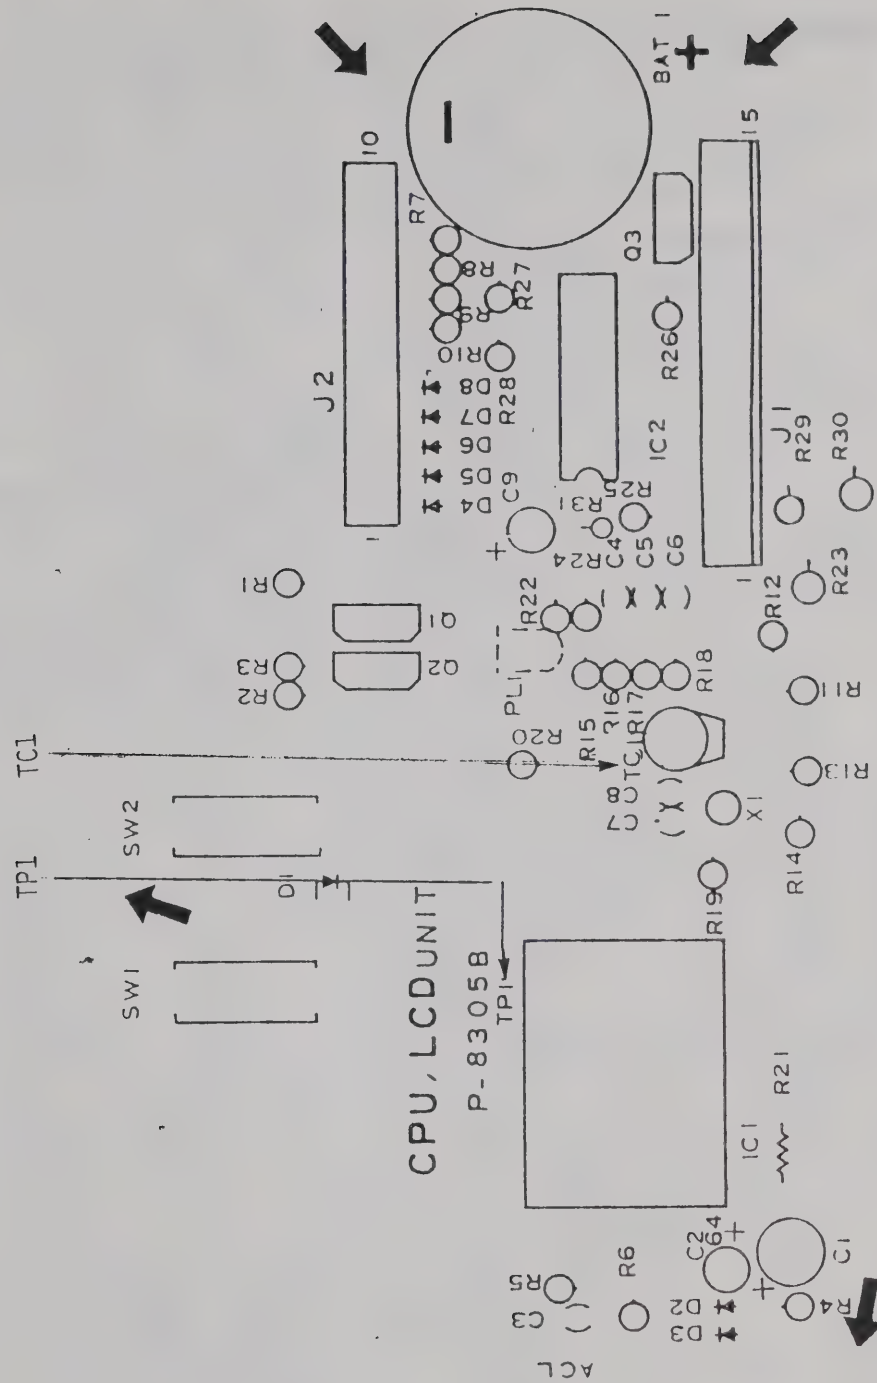

Figure 3-2. Location of Components on MX5000 CPU-LCD Board Called Out in Alignment Procedures
3.5.1 On CPU-LCD Board (Fig. 3-2, MX5000; Fig. 3-10, MX7000):
Table 3-2. Replacement Parts List, CPU-LCD Board Assy. MX5000(See Fig. 3-2)